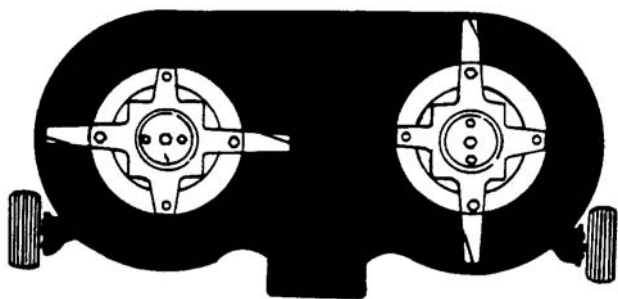

Figure 8-9. Timing Blades
2. Rotate blade assembly on the cutting deck and reassemble the other blade assembly at 90° exactly as shown. See Figure 8-9 on page 8-9. For blade mounting torques, see Table 8-1.